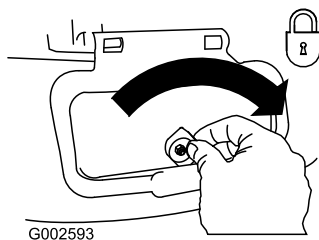

**Figure 30**
3. Install the side discharge chute and close the door onto the chute (Figure 30).